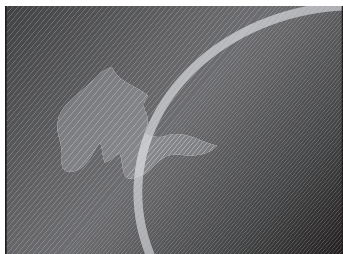

Fig. 7
- Never place hot casserole dishes or frying pans on the control panel or cooking-hob frame, fig. 7.